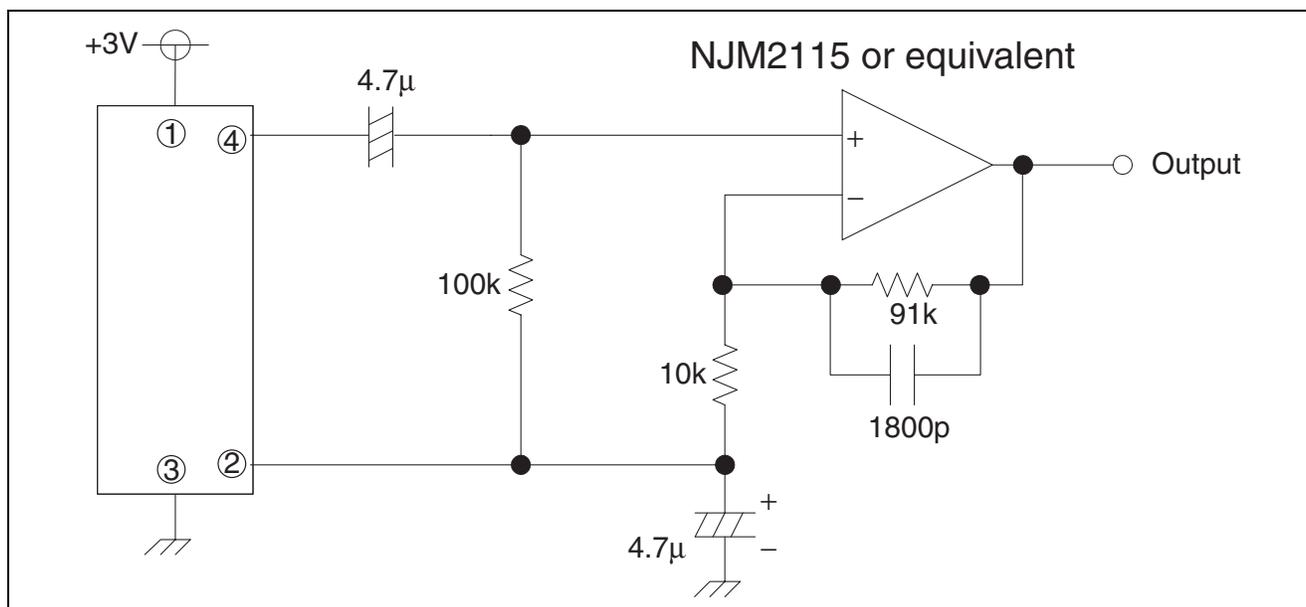

Figure 2 Sensor Standard Amplification Circuit (Sample Circuit)
B. Figure 2 shows a standard sensor amplification circuit.